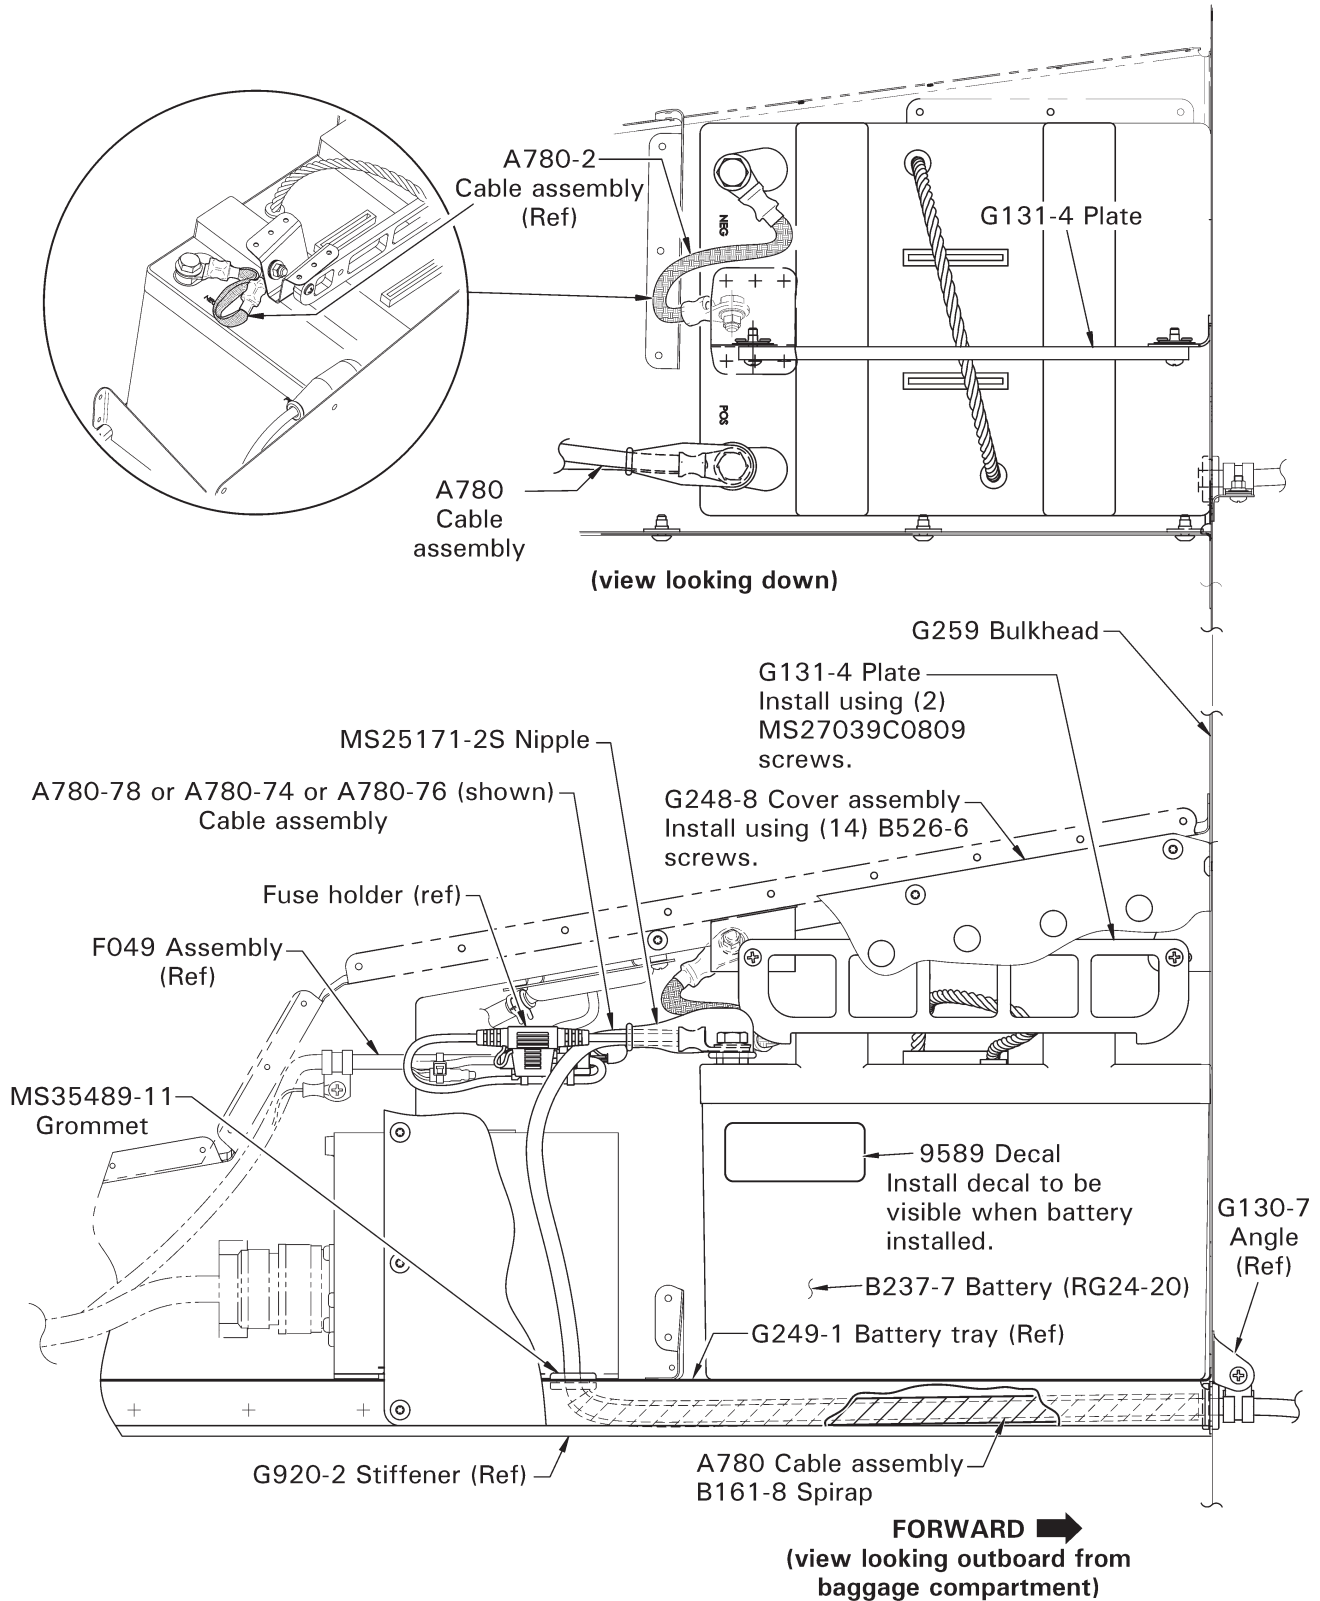

FIGURE 5 B237-7 battery revised installation shown
11. Refer to Figure 5 (B237-7 battery) or Figure 6 (B237-8 battery), as applicable. Feed relay-end of cable thru hole in G249-1 battery tray and forward thru G920 stiffener toward G259 bulkhead. Pull cable thru bulkhead hole from forward-side, using needle nose pliers or similar tool. Adjust protruding length according to measurement recorded in Step 6 NOTE.
12. Trim B161-8-12 spirap to 11.25 – 11.75 inches. Wrap spirap around A780 cable forward of G259 bulkhead. Slide spirap along cable thru bulkhead hole until full length of spirap is aft of bulkhead, inside stiffener. Slide (1) MS35489-11 grommet on cable and install on bulkhead.
15. Refer to Figure 5 or 6, as applicable. Install 9589 decal on battery as indicated, unless previously installed in location shown. Verify battery terminal surfaces are clean to ensure electrical conductivity.
16. Verify A780-2 ground cable is positioned as shown in Figure 5 or 6 where it is fastened to the airframe. If required, loosen installation hardware securing A780-2 cable to airframe and position cable assembly terminal aft as shown in Figure 5 or 6. Secure terminal hardware and standard torque per MM 20-30.
20. Refer to Figure 5 or 6, as applicable. Connect A780-74 or -76 cable assembly's fuse holder wiring to airframe harness as shown and secure using appropriately-sized ty-raps.
21. Install new G248-8 cover assembly (battery compartment) and secure using (14) B526-6 screws (see Figure 5).